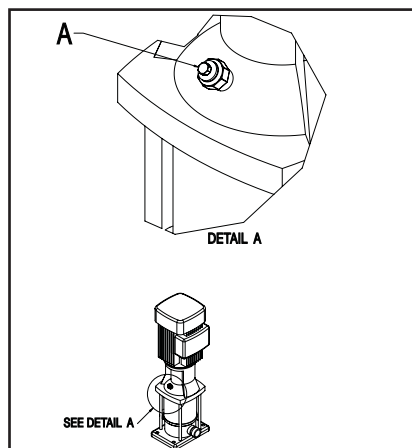

Fig. 9 0627131
3. Loosen the relief plug (A, Fig 9) 1-2 revolutions until water and air begin to flow out.